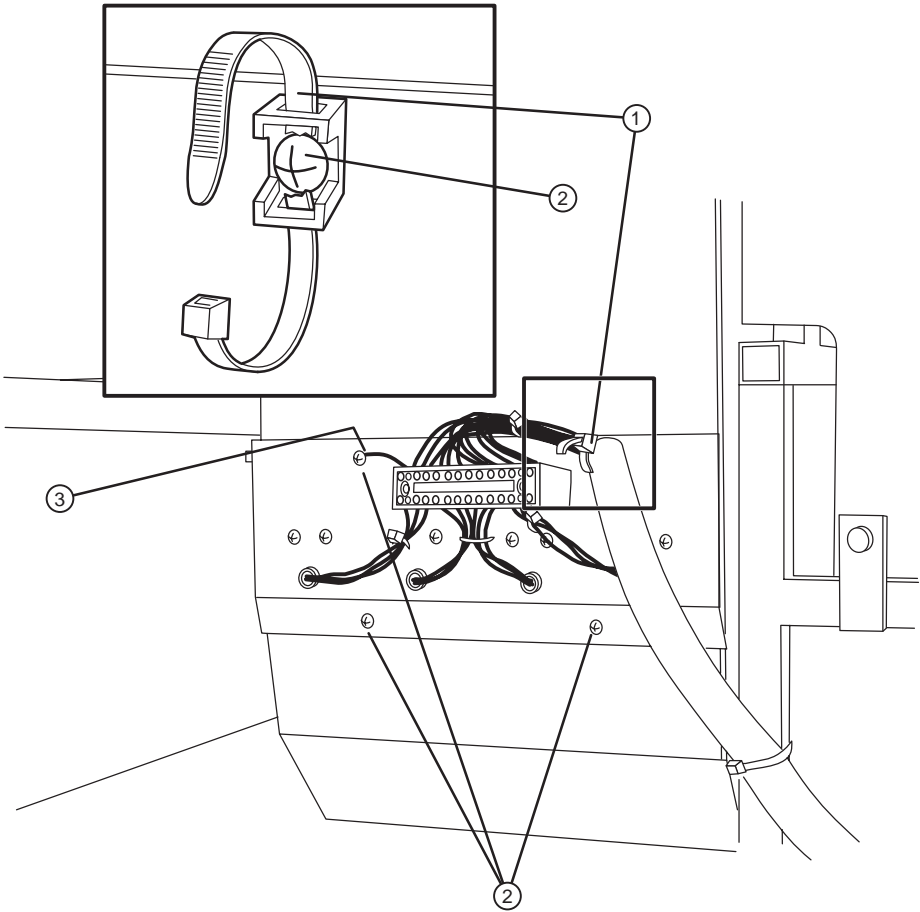

Figure 3-17 Dryer heater element front plate.
3. Cut the tie wrap holding the wires to the top right part of the front plate. Using a phillips screwdriver, remove the screw in the tie wrap holder. Refer to Figure 3-17.
4. Remove the screw and ground wire in the upper left part of the front plate. Refer to Figure 3-17.
5. Remove the two screws in the bottom of the front plate. Refer to Figure 3-17.
9. Using a small flathead screwdriver, remove the three (3) corresponding wires from the terminal block at the front of the plate. Refer to Figure 3-17.